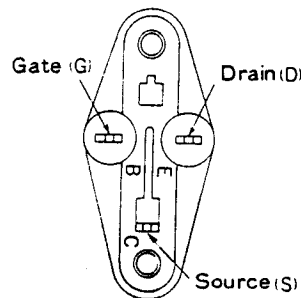

Fig. 7
- (1) When the stabilized power circuit and the peripheral parts of Q701 and Q702 (D701, R703, R709 and their peripheral parts) are replaced, the adjustment of the input/output DC may drift, so be sure to check the input/output DC voltage.
- (2) Since  $\text{F}$  grade of  $h_{FE}$  is specially classified into  $\text{F1}$  -  $\text{F3}$  for Q701 and Q702, replace them matching the proper grade with the proper channel.
- (3) Since the socket for transistor use is used for the socket of the POWER MOS FET, polarity is indicated as B, C, E. Match it to the indications shown in Fig. 7 when replacing the POWER MOS FET and when checking.